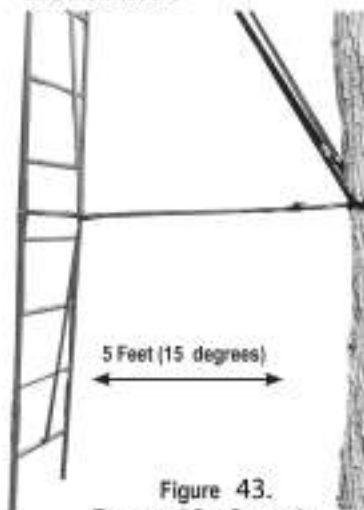

Figure 43.
STEP 5: Make sure the ladder is not straight, but has about 15 degrees of angle as shown in Figure 43. This will put the bottom of ladder approximately 5 feet from the tree as shown in Figure 43. **NOTE:** The seat and standing platforms must be level for a proper and safe installation.